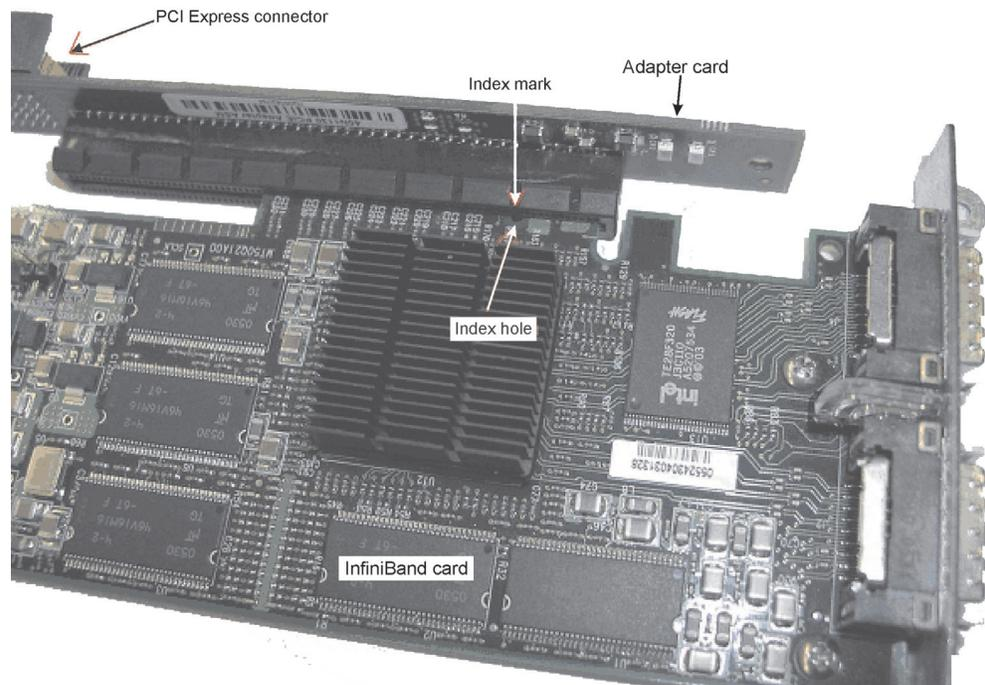

Figure 13. InfiniBand card connected to PCI Express adapter card
8. Plug the InfiniBand card into the adapter. Make sure the index hole of the InfiniBand card matches the index mark of the adapter, see Figure 13 on page 50.